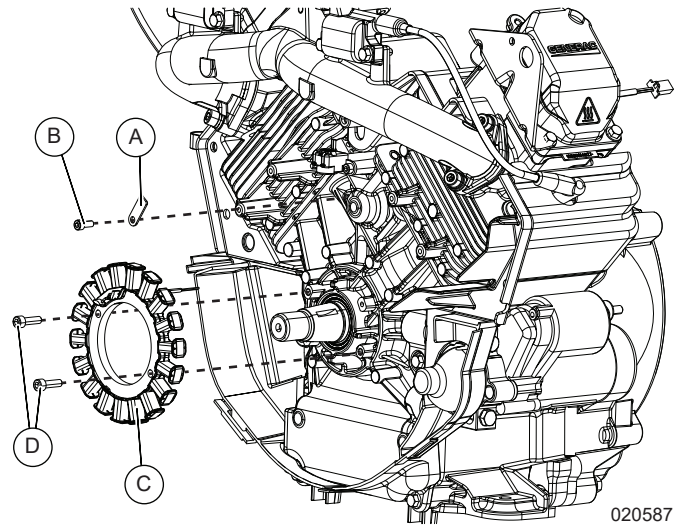

Figure 12-13. Install 1-phase Stator
2. See Figure 12-13. Install clamp wire retainer (A) to crankcase with fastener (B).